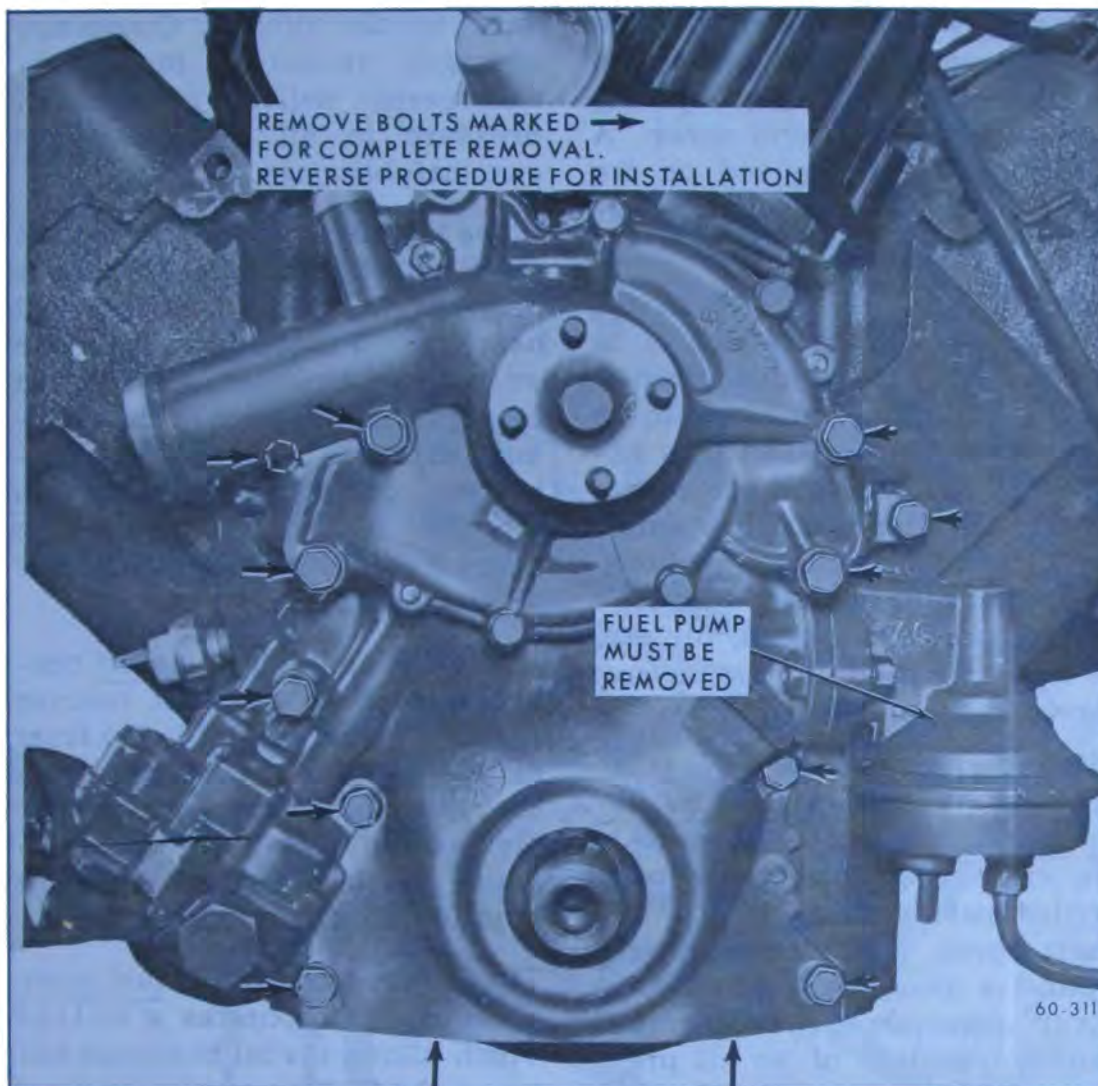

Figure 60-237—Timing Chain Cover Installation
11. Remove bolts attaching timing chain cover to cylinder block. See Figure 60-237. Remove two oil pan to timing chain cover bolts. Remove timing chain cover assembly and gasket. Thoroughly clean the cover, taking care to avoid damage to the gasket surfaces.
4. Lubricate the bolt threads before installation and install as shown in Figure 60-237.